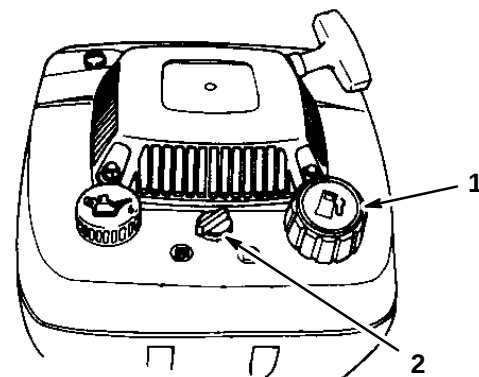

Figure 6
2. Clean around the fuel tank cap and remove the cap from the tank (Fig. 6).
1. Open the fuel valve (Fig. 6).